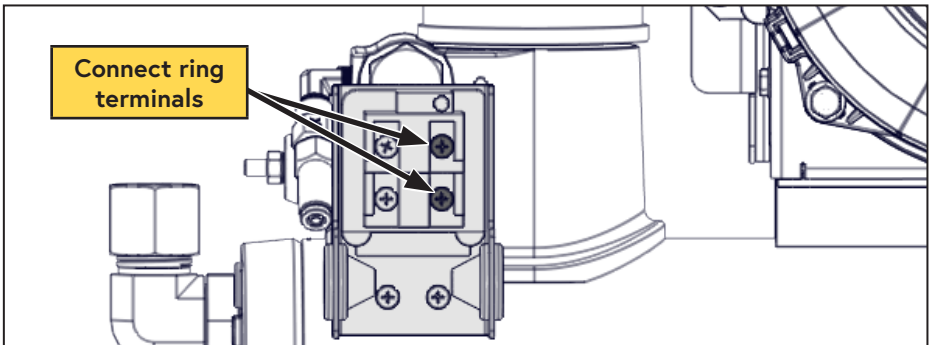

Figure 80 — Connect pressure switch
- Remove the cover from the WHASP Tank pressure switch and connect the 2 ring terminals from the control module to the pressure switch on the WHASP Tank (not polarity dependent) (Figure 80).